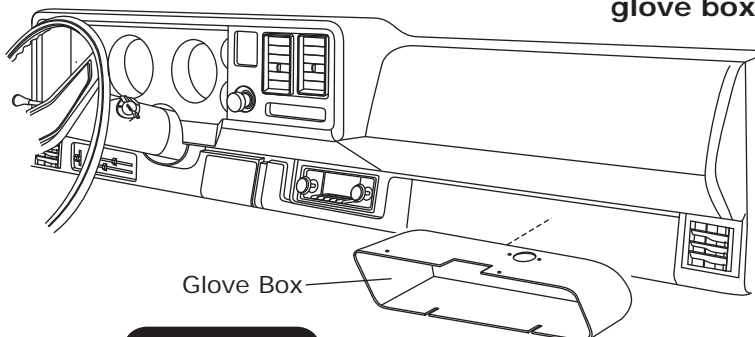

Figure 20
6. Install glove box (See Figure 20, below).
1. Install glove box provided, and secure with OEM screws through OEM holes (See Figure 20, below).